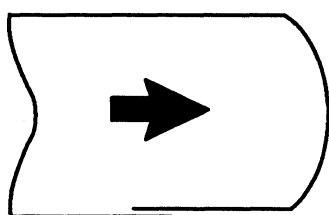

Fig. 4
- b) Fig. 4 shows a section through a semi-finished package, seen from above. Shift the support rollers in the direction of the arrow.
- c) To adjust, push **Short stop** and loosen the screw (1). Adjust by means of the adjustment screw (4). Turning the screw (4) clockwise moves the tube support roller to the right.